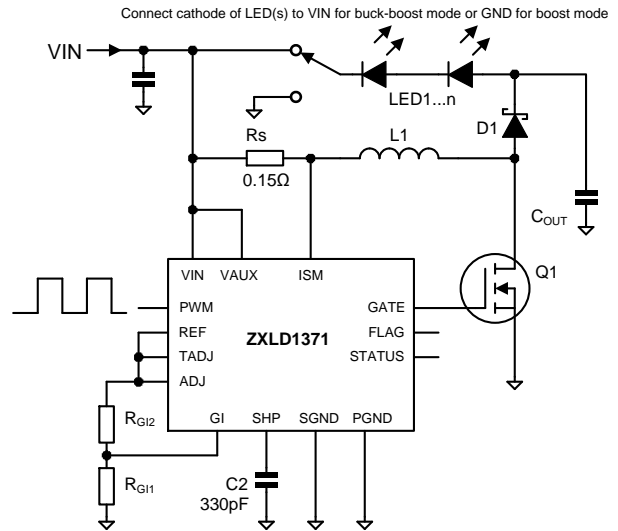

Figure 3. Boost and Buck-Boost Configuration
b) Boost and Buck-Boost Modes – the most simple boost/buck-boost circuit is shown in Figure 3
The average current in the LED, I_{LED} , is always less than I_{RS} . The feedback control loop adjusts the switch duty cycle, D, to achieve a set point at the sense resistor. This controls I_{RS} . During the interval t_{OFF} , the coil current flows through D1 and the LED load. During t_{ON} , the coil current flows through Q1, not the LEDs. Therefore, the set point is modified by D using a gating function to control I_{LED} indirectly. In order to compensate internally for the effect of the gating function, a control factor, GI_ADJ is used. GI_ADJ is set by a pair of external resistors, R_{G11} and R_{G12} . (**Figure 3.**) This allows the sense voltage to be adjusted to an optimum level for power efficiency without significant error in the LED controlled current.